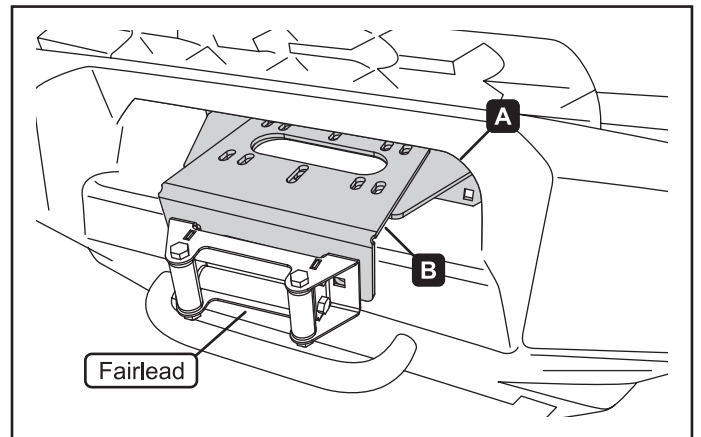

Figure 5. Alternative configuration for this bumper style
NOTE: For machines with bumper style shown in figure 5, wait to install fairlead mount (B) and winch until after the bumper is reinstalled.
NOTE: For machines with the bumper style shown in figure 5 on the previous page, install your winch and the fairlead mount (B) now as shown in figure 5.